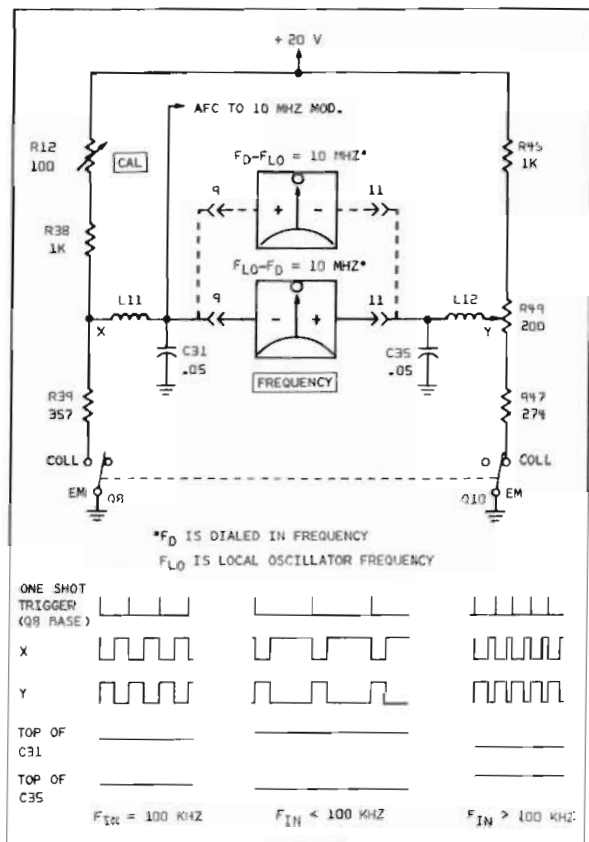

Figure 4-4. Frequency Meter Bridge Circuit
4.104 The bridge circuit includes the FREQUENCY meter on the front panel. A simplified schematic of the metering bridge circuit is shown in Figure 4-4. In this figure transistors Q8 and Q10 are shown as switches, one of which is always off when the other one is on.
4.107 For the conditions shown in Figure 4-4,
the switch that is on, Q10, causes the voltage at point Y to drop to a minimum (about .6 volts) and the switch that is off permits the voltage at point X to rise to a maximum (about 20 volts). The lower part of Figure 4-4 shows the waveforms at point X and Y. The time a switch is on equals the time it is off only when the input frequency is exactly 100 kHz; that is, when the pulse durations equal the times between pulses and represent a 50% duty cycle.